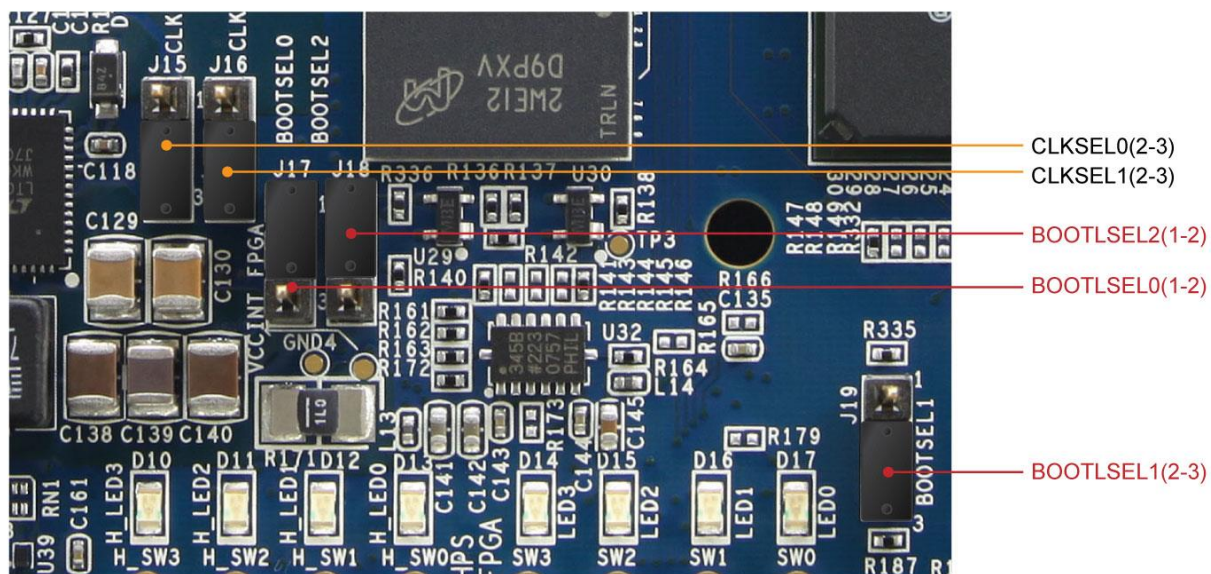

Figure 3-3 BOOTSEL and CLKSEL
- J17~J19 BOOTSEL [2:0] = 101 represents HPS will boot from SD Card (See Figure 3-3).
2. Make sure HPS is set to boot from SD Card (BOOTSEL[2:0] = 101 , see Figure 3-3)